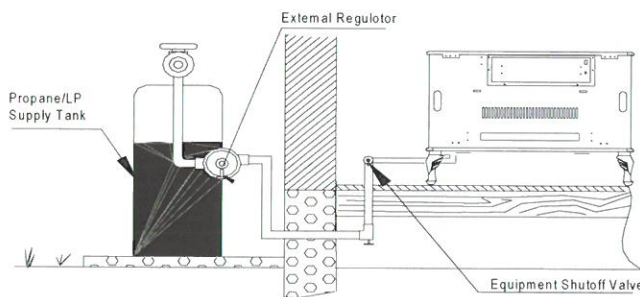
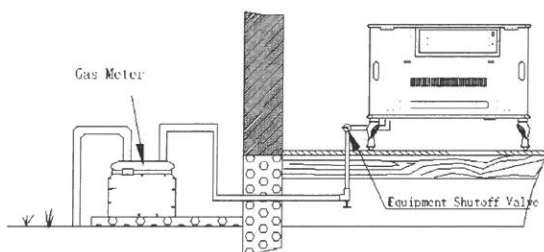

Figure 9.1 -Checking Gas Joints
Figure 9.2 -Checking Gas Joints
4. Check all joints from equipment shutoff valve to control valve (LP GAS see Figure 9.1 NATURAL GAS see Figure 9.2). Apply mixture of liquid soap and water to gas joints. Bubbles forming show a leak.